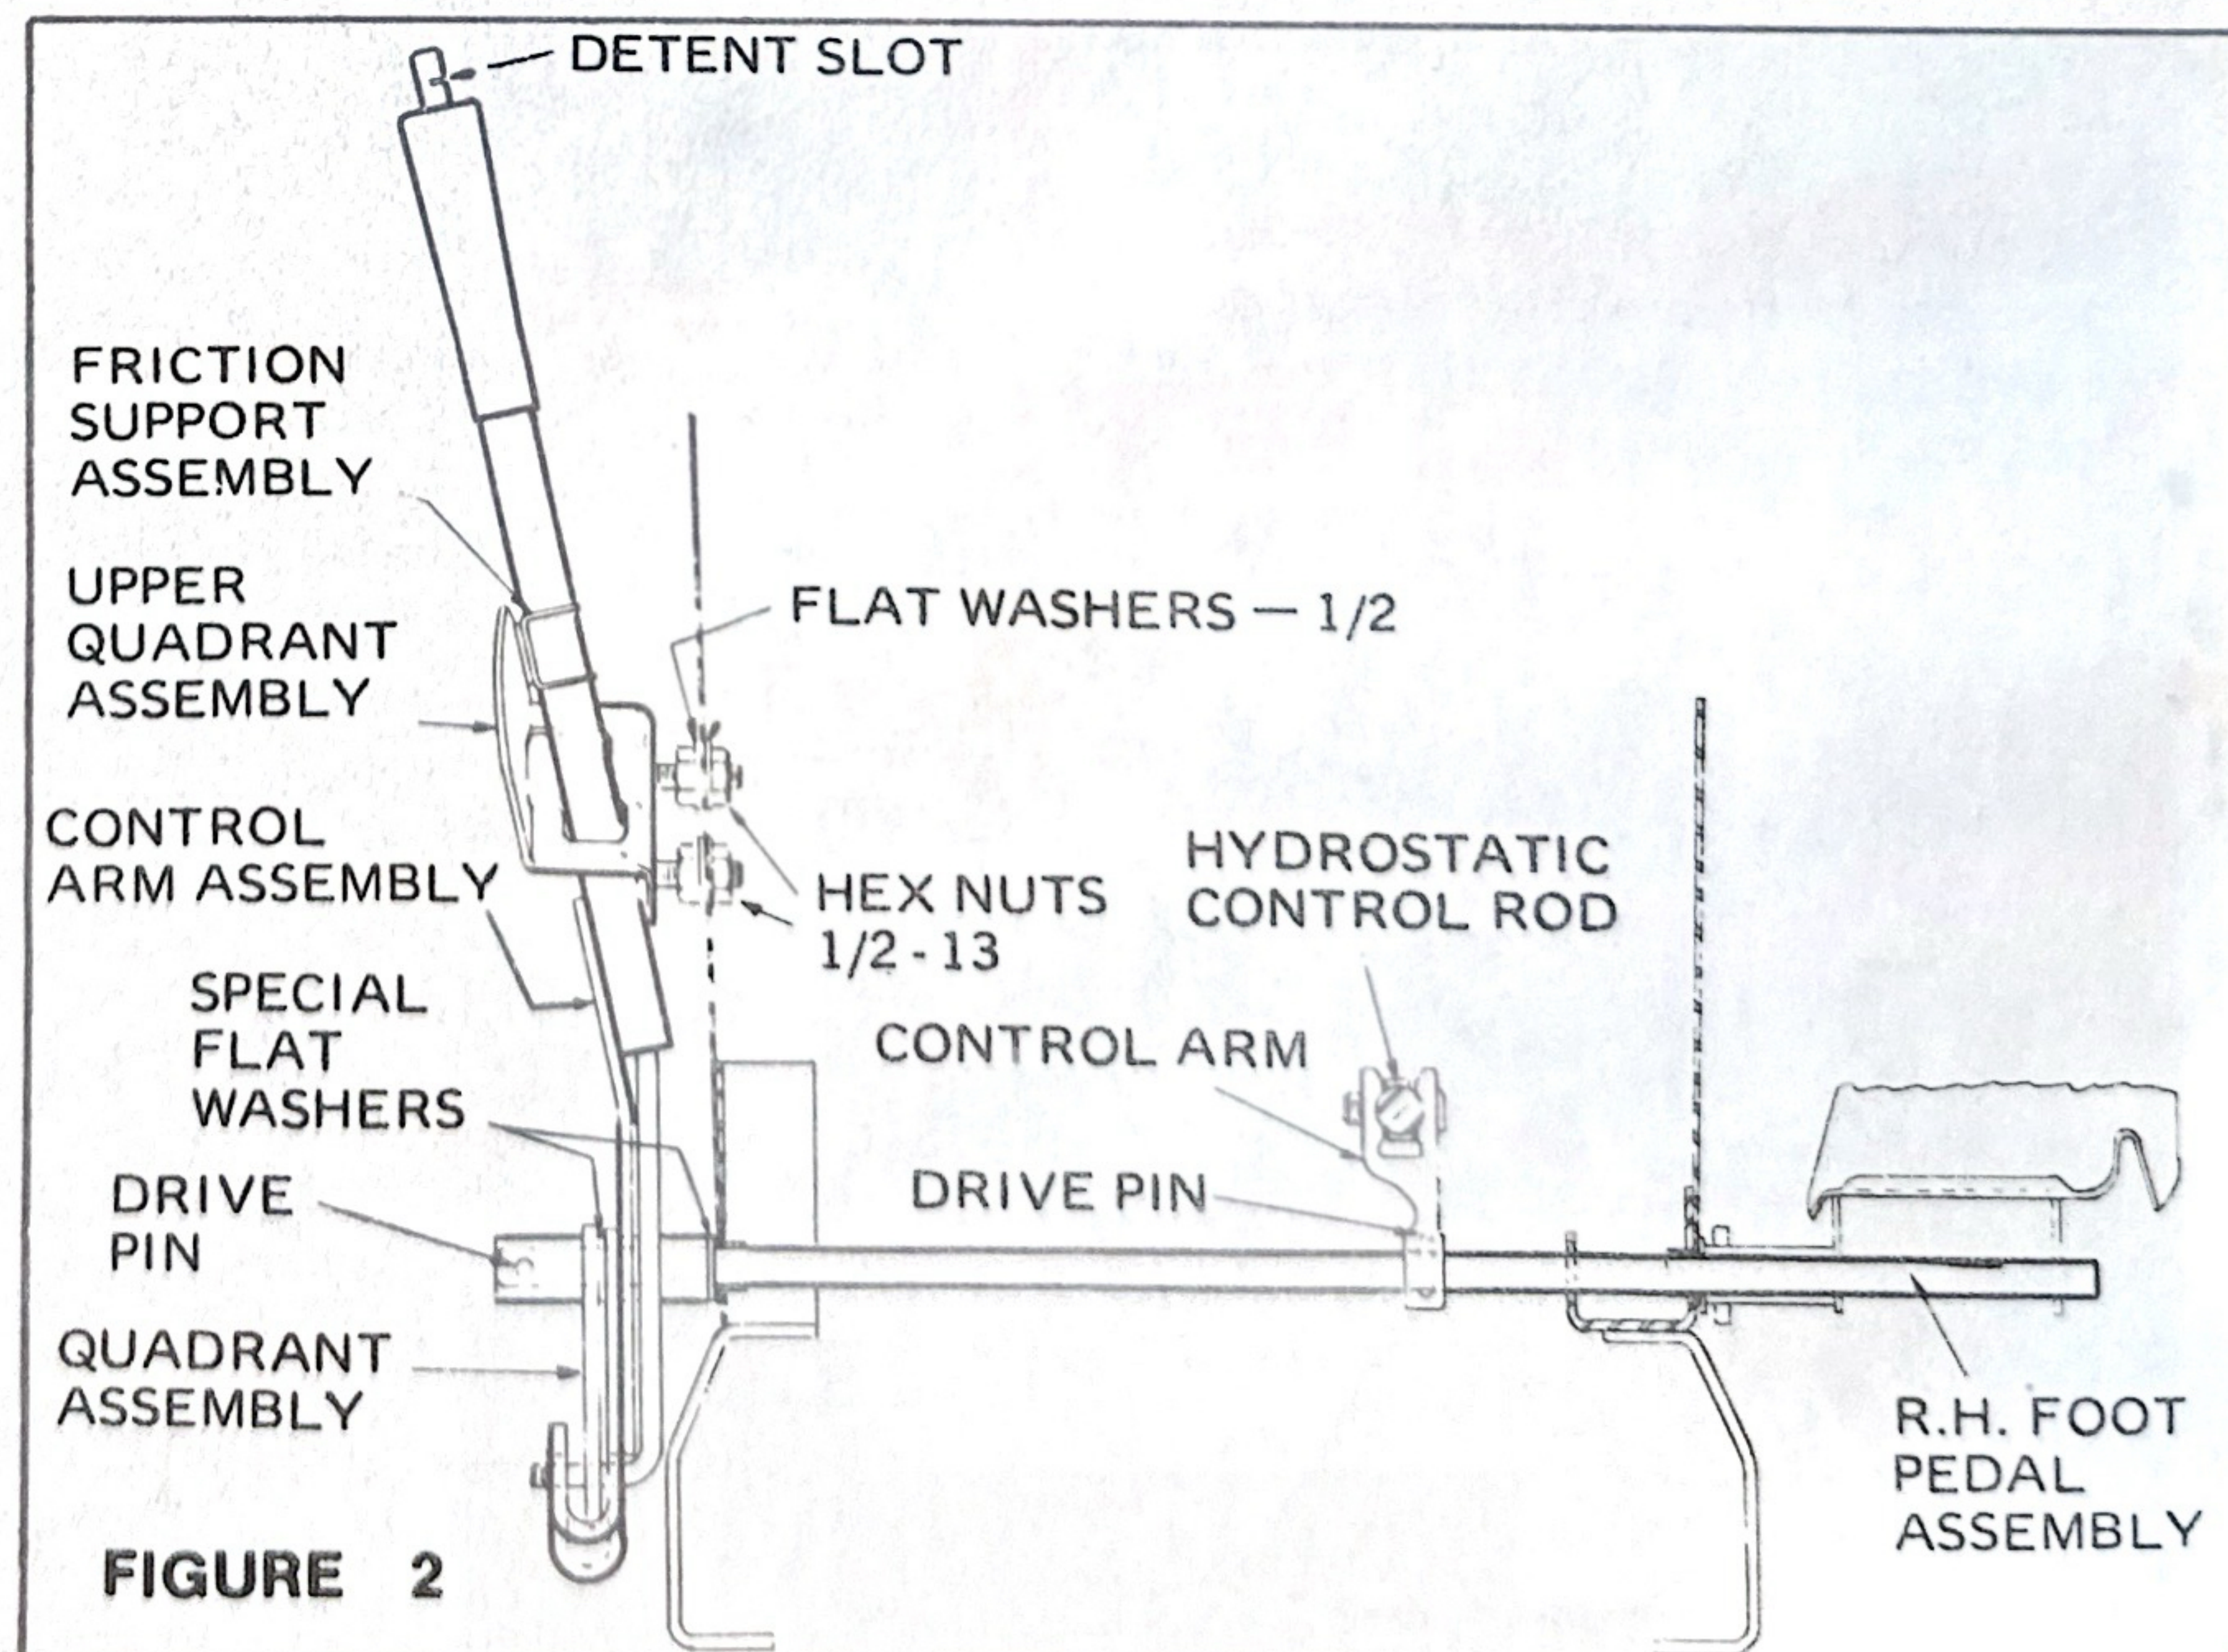

FIGURE 2
4. Remove hydrostatic control rod from control arm. See figure 2.
5. Tap drive pin out of control arm just far enough to free control arm from pedal shaft. See figure 2.
8. Place one special flat washer onto pedal shaft. See figure 2.
9. Place friction support onto control arm assembly, see figure 2. Install hex nut and flat washer onto each weld stud on upper quadrant assembly. Place quadrant assembly over control arm assembly. See figure 2.
10. Position hub of control arm assembly onto pedal shaft, at the same time position the two weld studs of the upper quadrant assembly into the two slotted holes. Secure upper quadrant assembly with flat washer and hex nut on each weld stud. See figure 2.
11. Place second special washer onto pedal shaft. Install quadrant assembly onto pedal shaft, make sure quadrant enters "U" on bottom end of control shaft assembly. Secure quadrant assembly to pedal shaft with drive pin, see figure 2.
13. Adjust the hex nuts on the upper quadrant to move it in to increase the friction support. The friction should be great enough to maintain tractor speed setting when hydrostatic is under load. Readjustment may be necessary as the paint wears off of the quadrant friction surface. See figure 2 & 3.